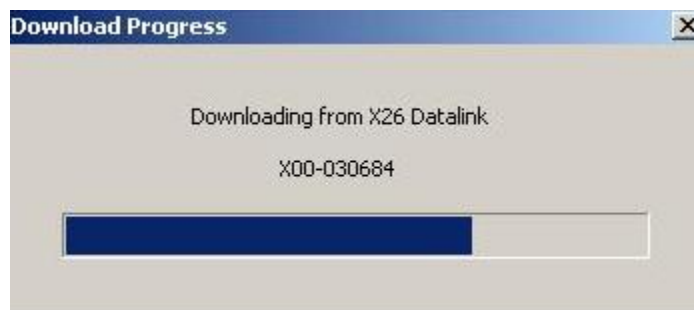

Figure 19
9. The **Download Progress** dialog box will confirm download progress (Figure 19).